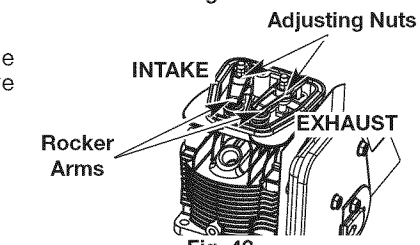

Fig. 43
- Slide the feeler gauge between the rocker arm and the top of each valve stem. Measure the clearance between the valve stem and rocker arm (Fig. 43). Measure both the intake and exhaust valves.
The recommended clearance for both intake and exhaust is .003 - .006 in. (.076 - 0.152 mm). Use a standard automotive .005 in. (0.127 mm) feeler gauge. The feeler gauge should slide between the rocker arm and valve stem with a slight amount of resistance, without binding. Figure 43 and 44 show how to measure the clearance.
- Turn the adjusting nut using a 5/16 inch (8 mm) wrench or nut driver (Fig. 43).